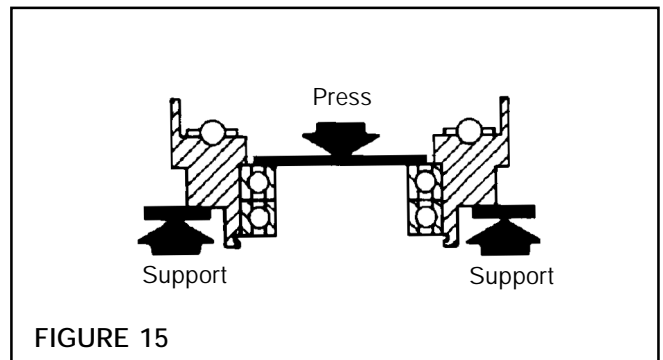

FIGURE 15
4. Fully supporting Drive Flange (Item 19) press Bearings (Items 21) out of Drive Flange (See Fig. 15)